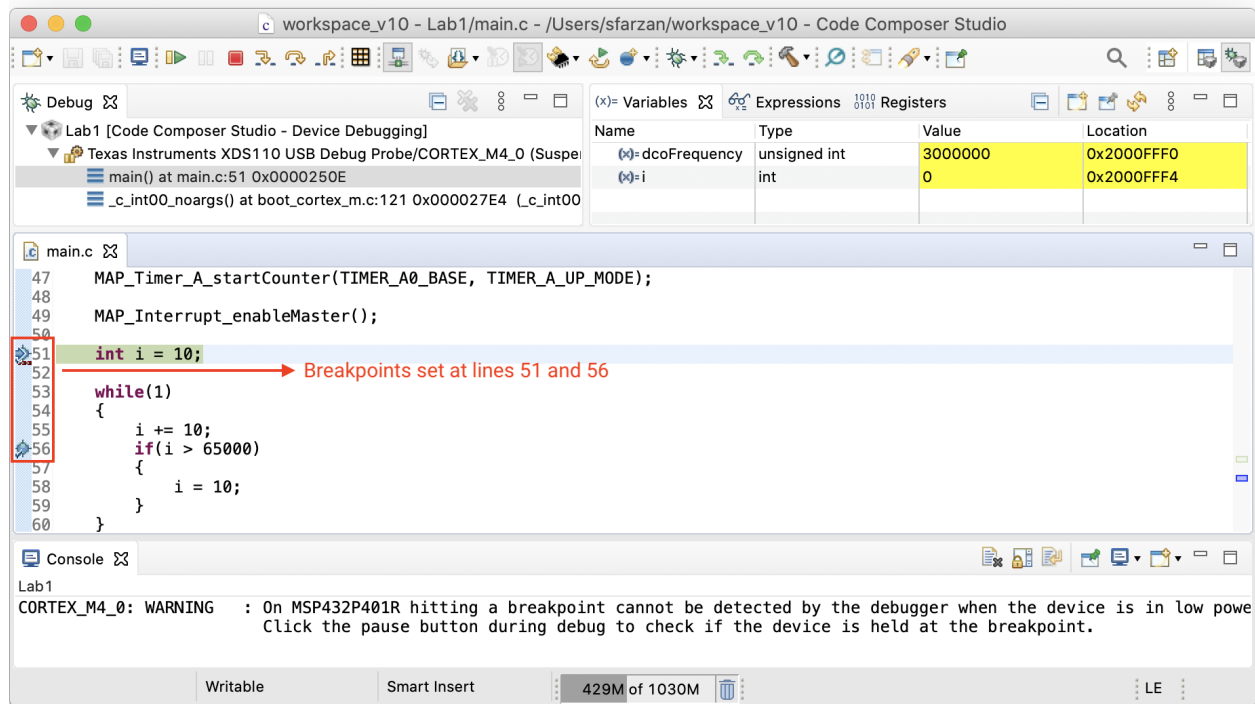

Figure 13: Setting breakpoints in debug mode.
- Set breakpoints at lines 51 and 56 of the code. To set a breakpoint, simply “double-click” on the left side (blue area) of the line number in the source code view (Figure 13). A blue circle icon will indicate the breakpoint status and placement. You can also right-click on a specific line of the code and select “Breakpoint” from the opened menu.
- Now press the Debug button. Once the code is paused in the main function, press F8 (or the Resume button) to progress to line 51. The program should pause execution at line 51, as shown in Figure 13.